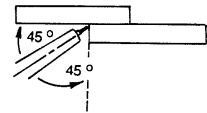

Figure 2.11
3. The electrode should be positioned at a 45° work angle and a 10° to 15° drag angle to perform the weld. (See Figures 2.11 and 2.12.)